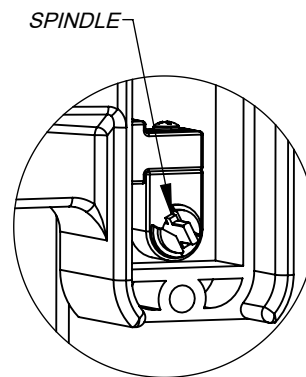
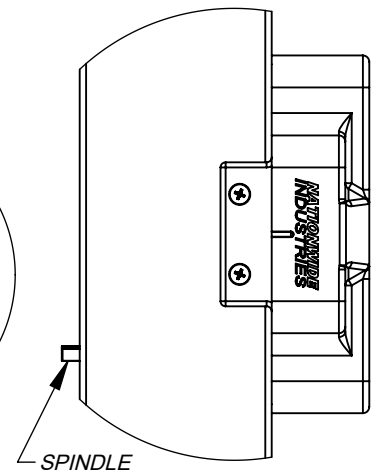

Figure 10
Figure 11
1) Fully insert the spindle into the spindle holes in the Latch Cam Assembly, Adapter Housing, and gate (Figure 10). The spindle should protrude from the inside surface of the gate by about 13/16" for the KYPD 1-sided version, or 5/16" for the KYPD 2-sided version (Figure 11). See Figure 12 and Table 1 to determine the correct cut mark on the spindle based on your gate frame size and KYPD type being used. **If the spindle sticks out too far, the latch will bind or seize. If the spindle does not protrude far enough, it will fail to engage with the inside handle.** Remove the spindle, cut it to the appropriate length, and reinsert it in the proper orientation.